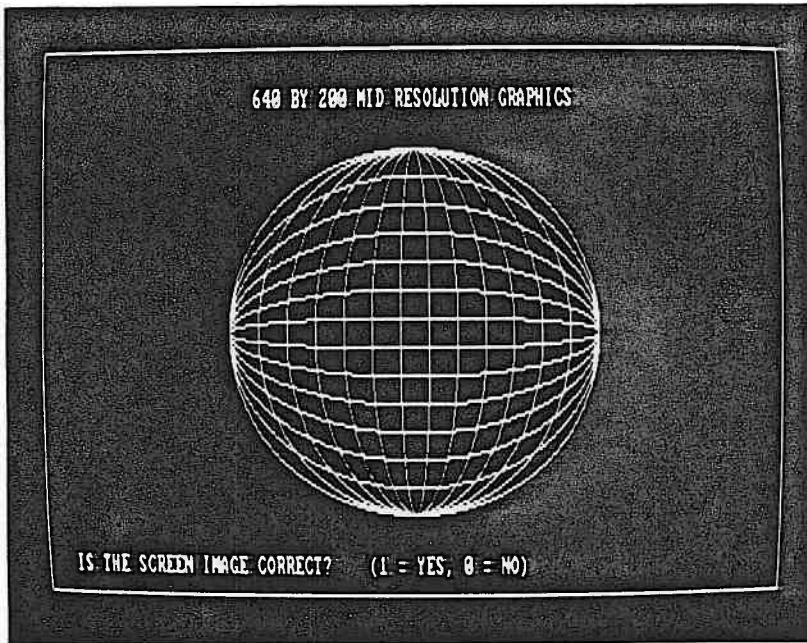

Figure 5-27. 640 by 200 Mid Resolution Graphics Pattern
20. The 640 by 200 Mid Resolution Graphics pattern should be displayed (Figure 5-27).
If the pattern shown on the screen is the same as Figure 5-27, press the **y** key. If it is not the same as Figure 5-27, press the **n** key followed by the **ENTER** key to continue with (abort) the video tests.